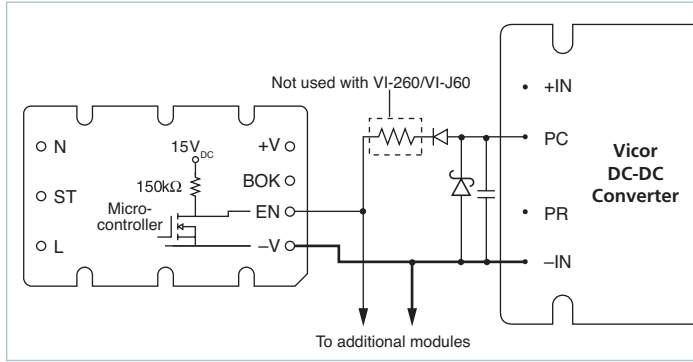

Figure 11 — Enable (EN) function; see Figure 8 for details
Enable (EN) Pin: (see Figure 11) The Enable pin must be connected to the GATE-IN or PC pin of all converter modules to disable the converters during power-up. Otherwise, the converters would attempt to start while the hold-up capacitors were being charged through an un-bypassed thermistor, preventing the bus voltage from reaching the thermistor bypass threshold thus disabling the power supply. The Enable output (the drain of an N channel MOSFET) is internally pulled up to 15V through a 150kΩ resistor.